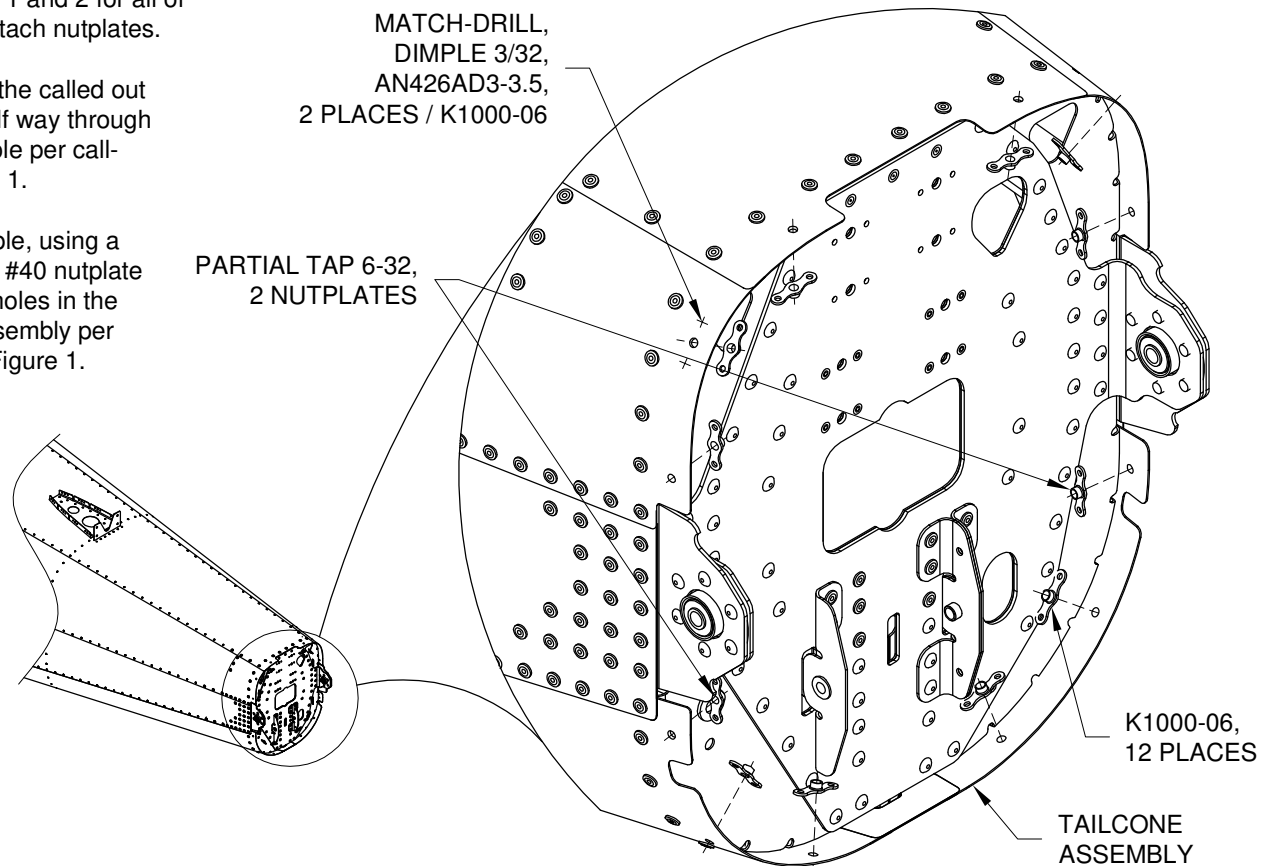

FIGURE 1:
Step 4: Dimple, using a 3/32 die, the #40 nutplate attach rivet holes in the Tailcone Assembly per call-outs in Figure 1.
Step 6: Rivet the nutplates to the tailcone per marks made in Step 2, and call-outs in Figure 1.